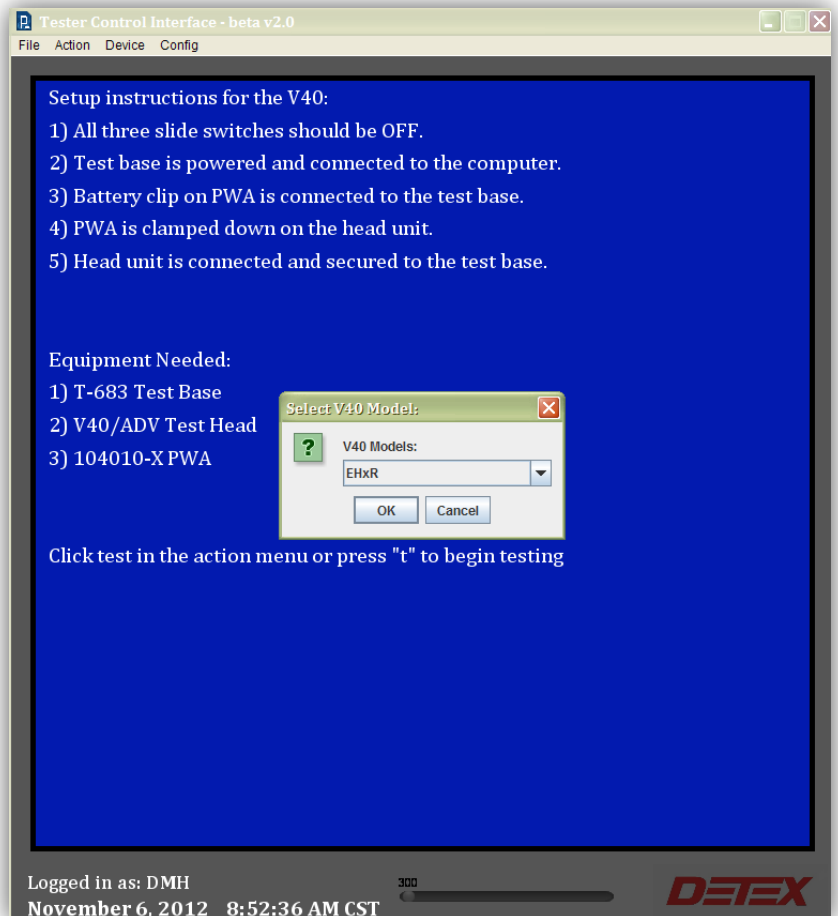

Figure 5
- 1) Select the desired device from the Device menu. Each entry in the Device menu corresponds to a specific firmware for that device. The V40 family is unique because it has many different models in addition to the multiple firmwares, so after selecting a V40 device you will also be prompted to select a model (Figure 5).